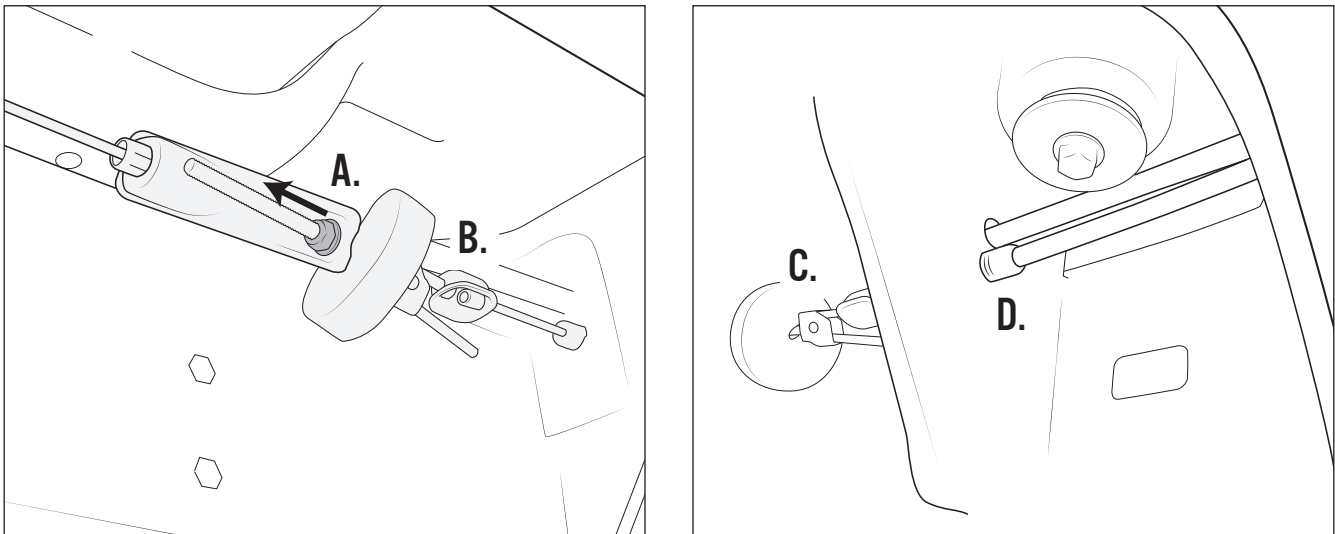

Figure 1
1. Disconnect parking brake cable (fig. 1).